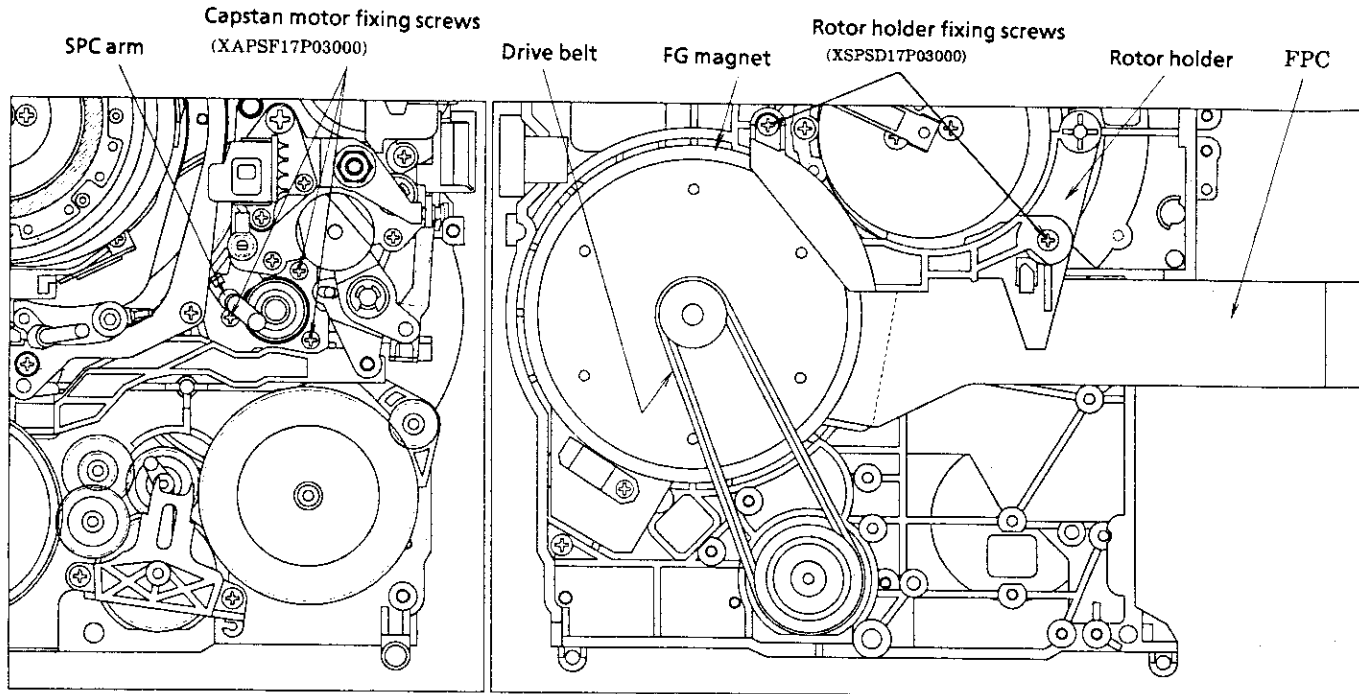

Figure. 2-17
1. Replacement of Capstan Motor (See Fig. 2-17)